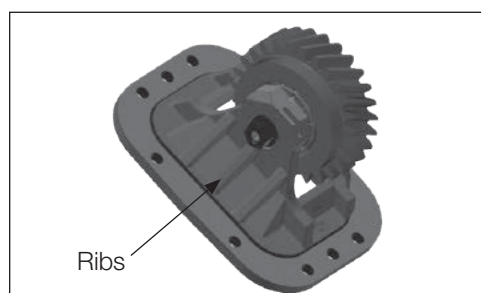

Figure 12
1. Position adapter so ribs are towards the front of the transmission (**Fig. 12**).